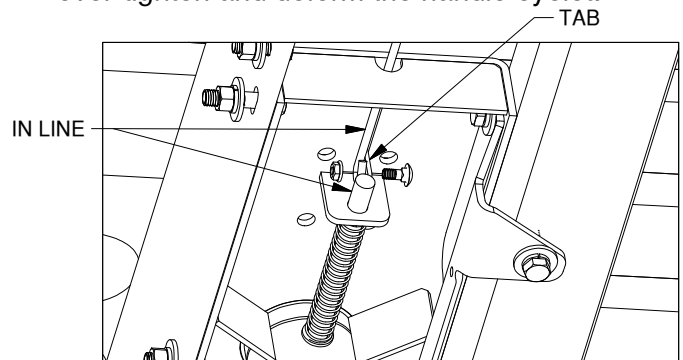

Figure F3: View under driver side of center under the latch pin. (Frame and some hitch components not shown.)
3. **Secure the handle.** From the driver side wheel well, install the latch pin release handle by inserting it between the bed and the frame. Pass the eye of the handle through the slot in the end of the center section. Align the handle eyelet with the square hole in the latch pin so the handle is in line with the latch pin. (On the cab side of the tab). Secure the handle to the pin with the 5/16" X 3/4" carriage bolt and 5/16" locking flange nut, as shown in Figure F3. Note: The included 5/16" cap screw can replace the carriage bolt if wrench access on the "cab side" of the handle is limited. Tighten the nut until it is secure. Do not over-tighten and deform the handle eyelet.